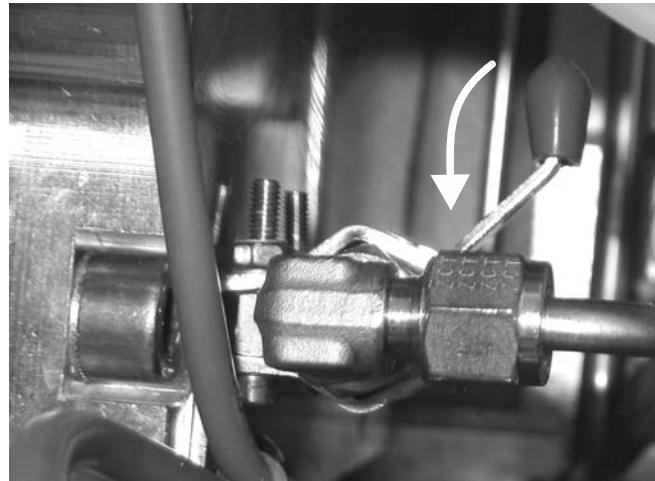

Figure 155: Opening the laser tube shut-off valve
34. Open the laser tube manual shut-off valve (see Figure 155).